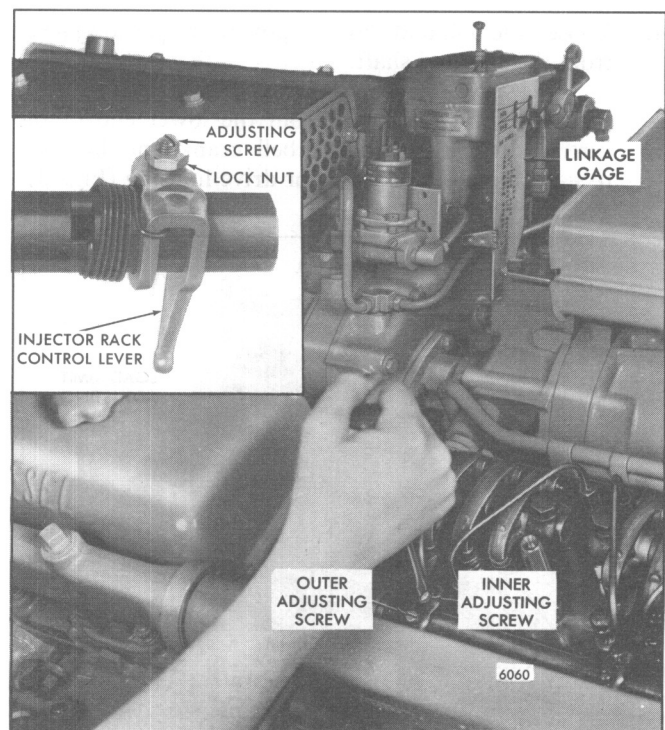

Fig. 5 – Positioning No. 4R Injector Rack Control Lever
6. Adjust the No. 4R (16V) or No. 3R (12V) injector rack by tightening the adjusting screw until the injector rack clevis is observed to roll up or an increase in effort to turn the screwdriver is noted (Fig. 5). Tighten the screw approximately 1/8 of a turn more and lock securely with the adjusting screw locknut. This will place the No. 4R (16V) or No. 3R (12V) injector rack in the *full-fuel* position.